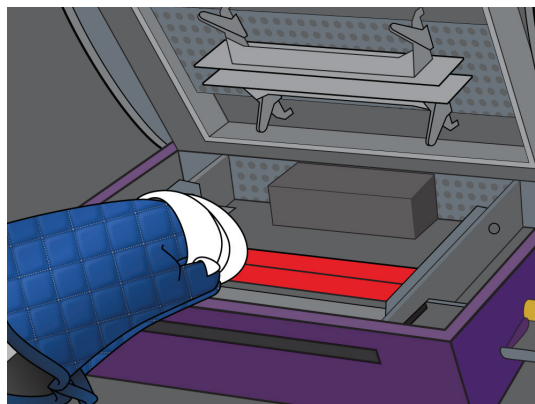

FIGURE 29
5. While wearing the heat protective glove, clean the top side of the heating platens with a clean dry cotton cloth dampened with the cleaning solution provided in your Accessory Pack. Wipe the surfaces lengthwise until clean. (figure 29) After the parts have cooled you can also peel off adhesive buildup with a wooden item like an ice cream stick. **Be very careful not to use metal items which would scratch the coated red heater surfaces.**